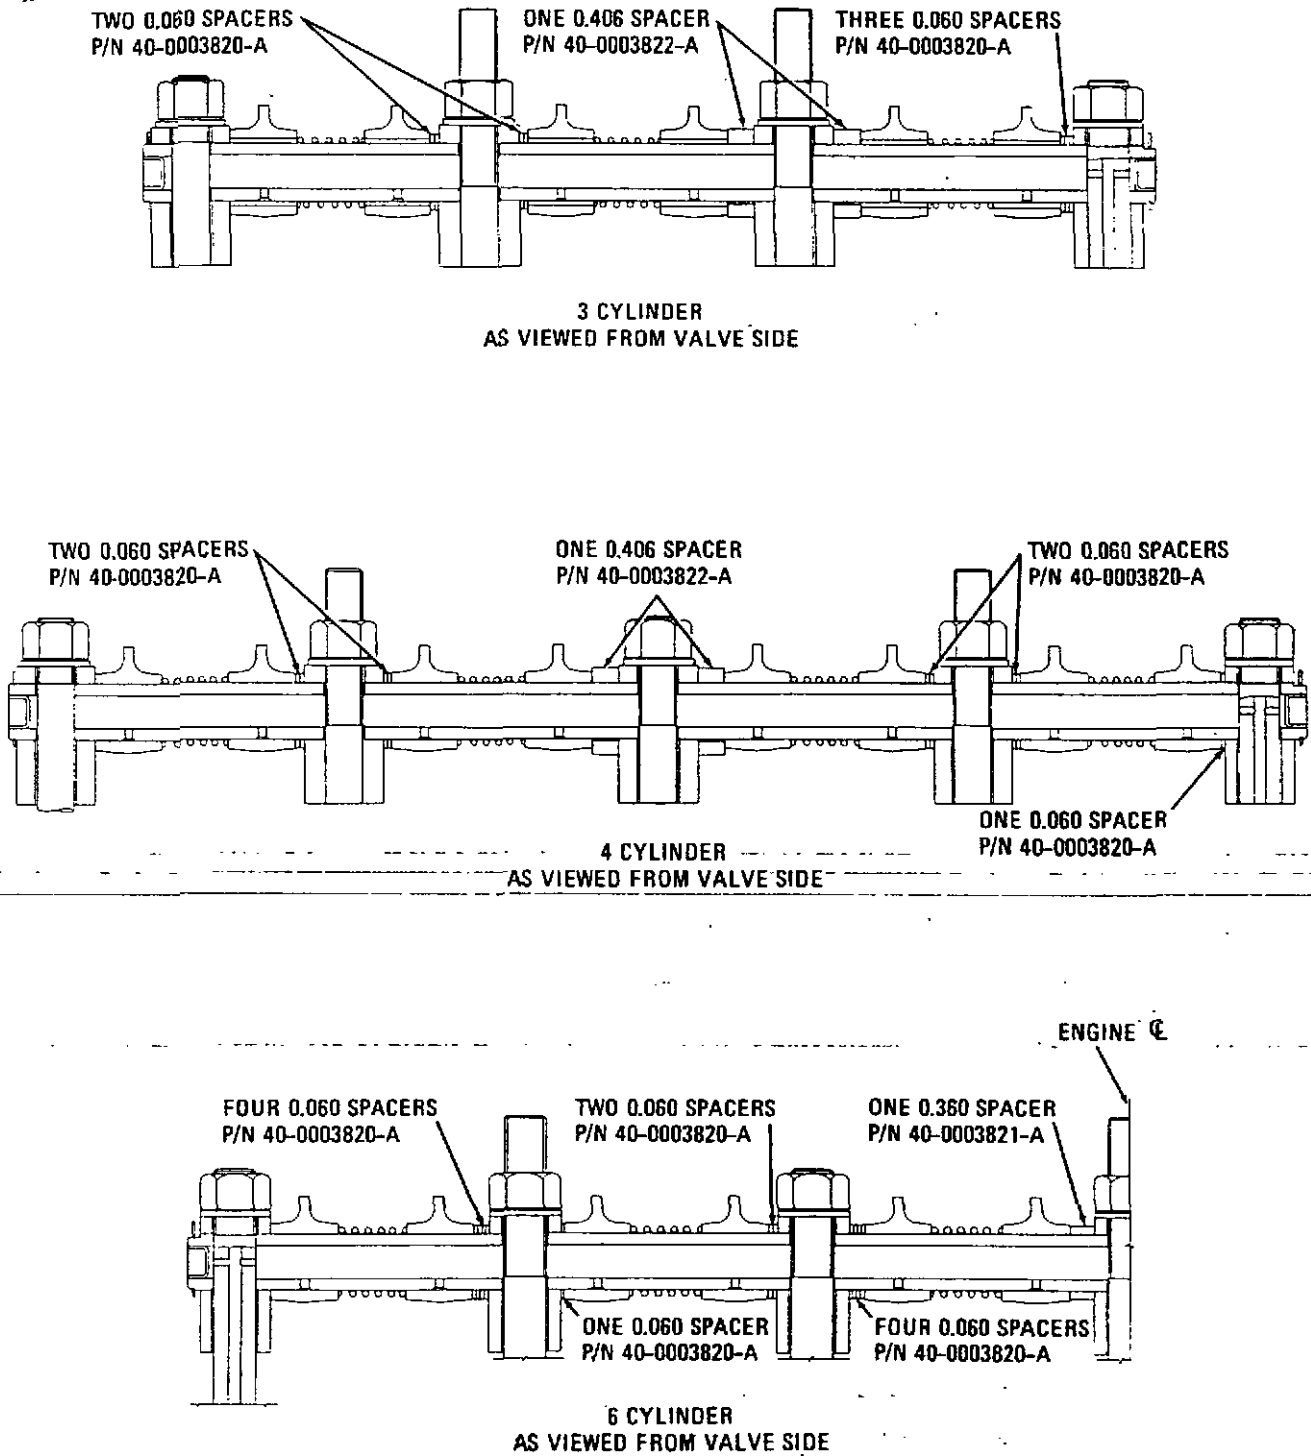
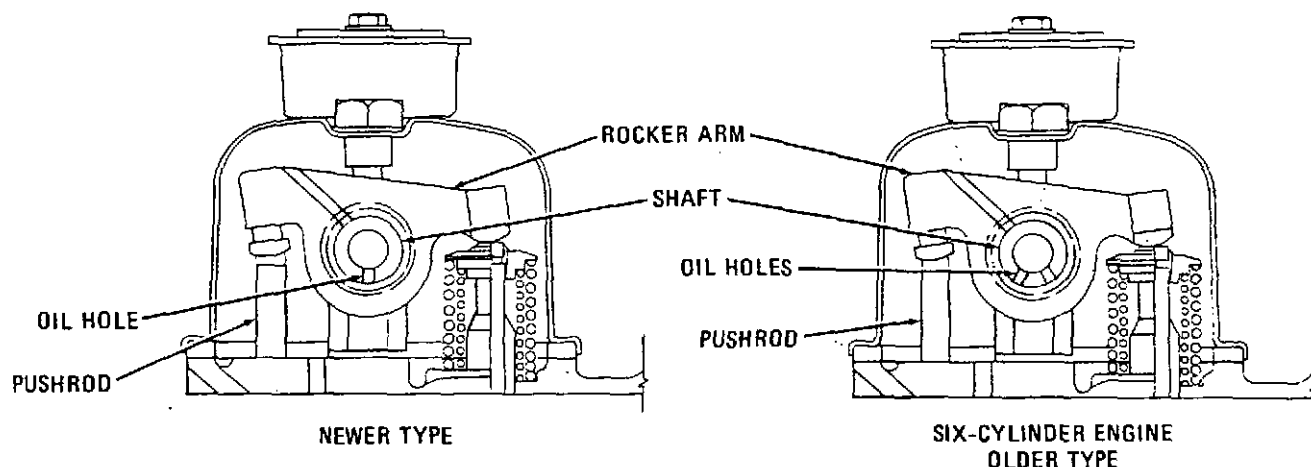
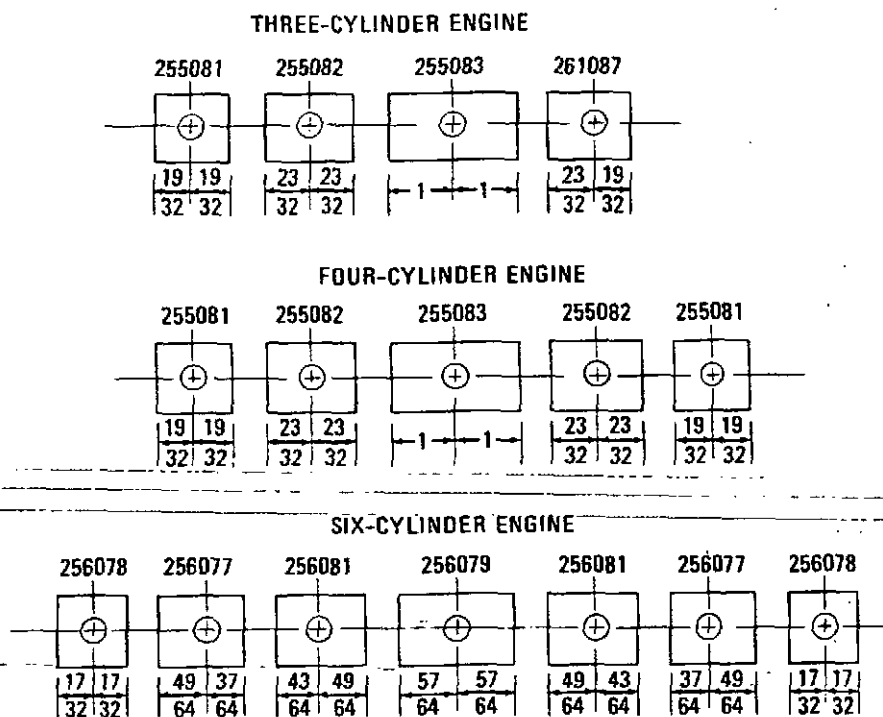

Figure 5-17. Rocker Arm Shaft Showing Spacer Position for Engines Having Identically Sized Shaft Supports
Figure 5-18. Rocker Arm Shaft Showing Oil Hole Positions.
Figure 5-19. Rocker Arm Shaft Support Installation for Engines Having Variable Sized Supports
1. Coat the rocker arm shaft (23) lightly with clean lubricating oil. Slide the shaft supports (18), rocker arms (19), spacing springs (20), and spacers (21 and 22) onto the rocker arm shaft. Install the spacers on the shaft of engine models that use them, as indicated in figure 5-17. On the three- and four-cylinder engines, make certain that the oil holes in the shaft face downward and toward the camshaft side of the engine, as shown in figure 5-18. On older type D Series engines, there are two oil holes for each rocker arm and they must face downward as shown in figure 5-18. Newer type rocker arms shown on figure 5-17 have only one mounting hole which must be assembled downward. On older D Series engines, the shaft supports (18, figure 5-16) vary in size and mounting hole location and must be assembled exactly as shown in figure 5-19. Install the retaining rings (17, figure 5-16) on each end of the rocker arm shaft.